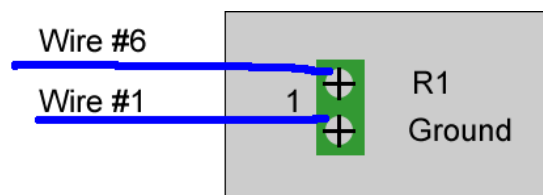

Fig 1. Wire connections for two-position MX Series II Modules. Wire colors will vary.
- (1) When the logic state is changed to OPEN, (HIGH or OFF), the valve will rotate to position 1. When the logic state is changed to CLOSED, (LOW, ON, or GROUND), the valve will rotate to position 2.
- (2) Wire the interface cable to the instrument for 1 line control (see fig 1)
- (3) See page 12 for 1-line level logic generic time programming example. (Note- the actual programming will vary depending on the manufacturer of the instrument used. Hookup documents for selected instruments are available at <http://www.rheodyne.com/support/>.)